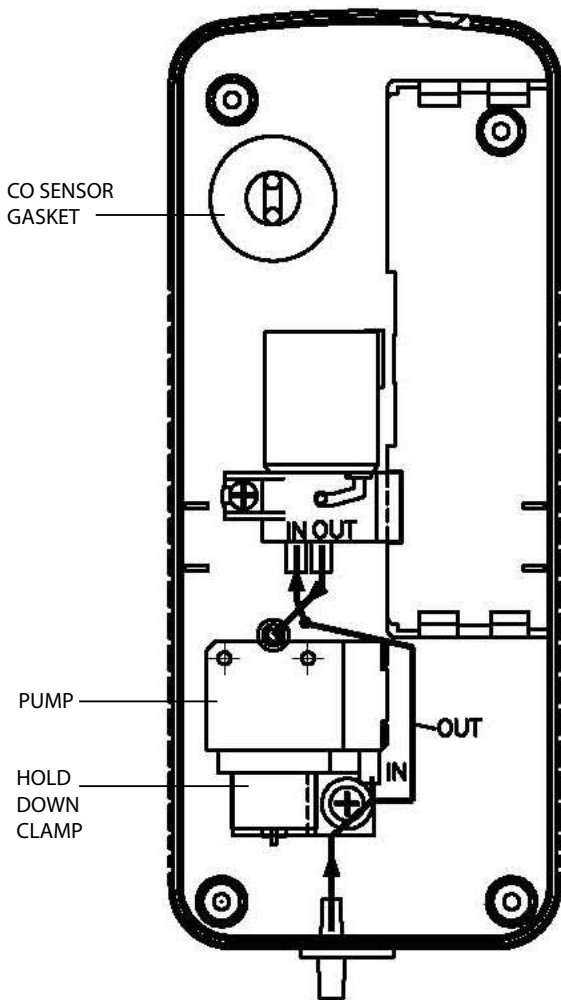

Figure 5-4. Back Case Component Locations
4. It is recommended that the CO sensor gasket (see Figure 5-4) be replaced at the same time as the sensor. Remove the old gasket and discard. Remove the paper backing from the new gasket and adhere it to the case in the same position as the old one.
3. Unscrew the pump's hold down clamp and remove it from the pump (see Figure 5-4). Make note of how the pump wiring is routed.